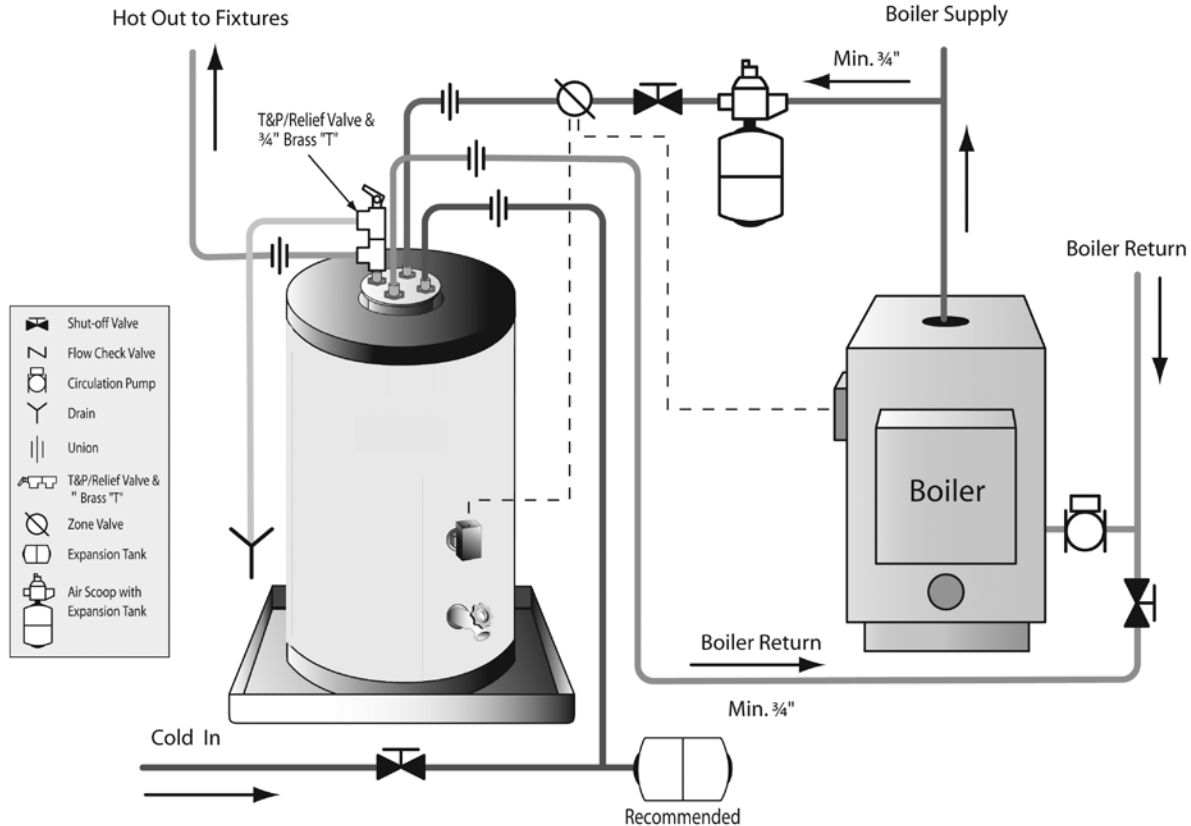

Figure 1: General Configuration
- T&P installed as shown in Figures 1, 2 and 3.
E. WATER SUPPLY CONNECTIONS **(See Figure 1, 2 & 3).**
See Figure 1 & 2 and separate TPI control wiring diagrams.